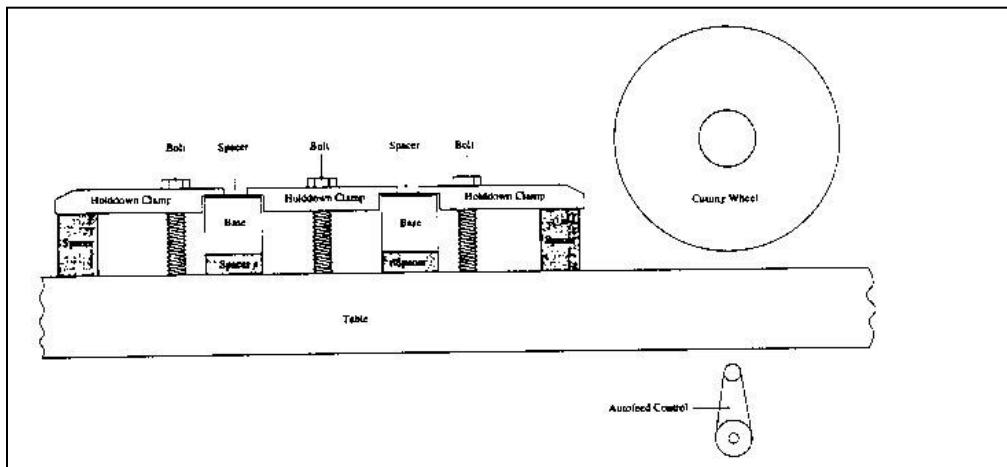

Figure 42: Side View of Horizontal Milling Setup.
2. Using a square, mark a reference line approximately 1/16" from one end of the block. Consult the drawing (Figure 42).